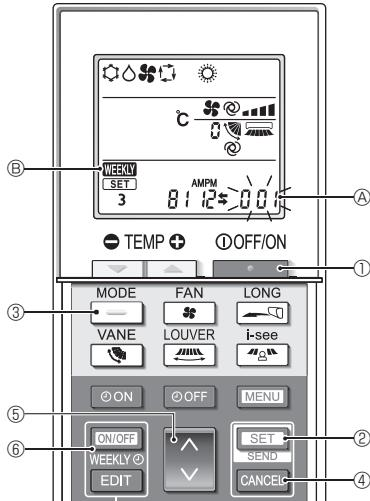

Fig. 5-12
5.12.8. How to disable Auto mode operation (Fig. 5-12)
2. Press the **SET** button ② for 5 seconds.
3. Press the **▼** button ⑤.
4. Completing the settings (Fig. 5-12)